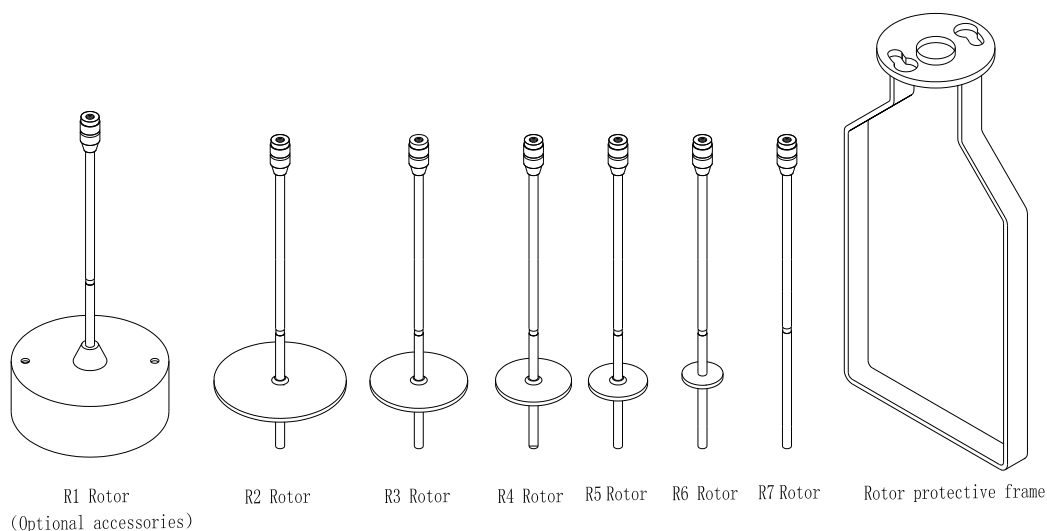

Fig. 7
(6)The structures of standard rotors #1~#4 for series NDJ/SNB/LVDV viscometers are shown in Fig. 3The structures of rotors R1~R7 for series RVDV/HADV/HBDV viscometers are shown in Fig. 7.Rotor R1 is optional, and no rotor protective frame is equipped for series HA/HB viscometers.